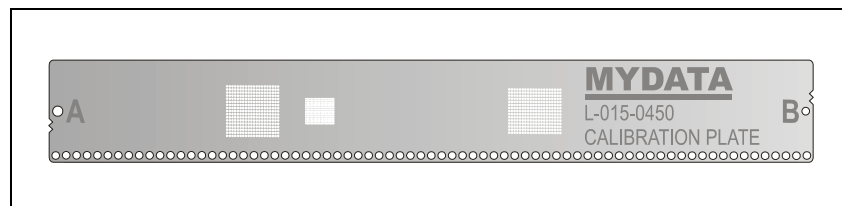

Figure 11-5. Calibration board L-015-0450
6. You are now asked to locate the fiducial marks A and B on the calibration board, see Figure 11-5.